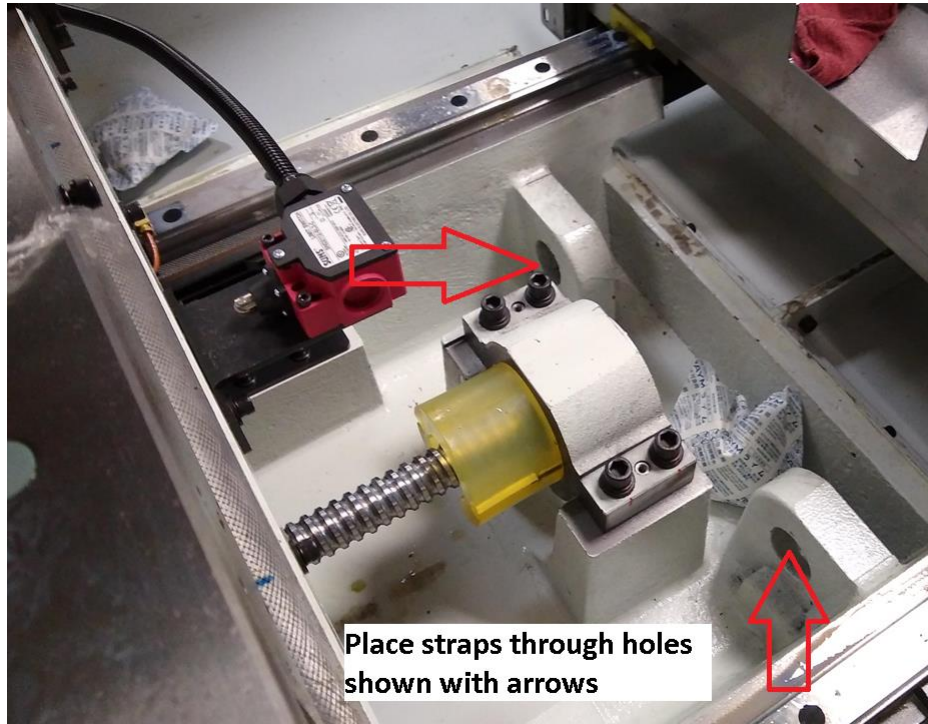

Figure 7 – Lifting Machine with Straps
- To move the machine while on the pallet, a 15000 lb. forklift with a 24" load center & 6' fork extensions is required. Depending on the load center or rating of the forklift, a larger forklift may be required. The center of gravity (CG) of the machine while on the pallet is ~56" from the edge of the pallet.
- The TMC may be lifted via a crane with 4 points shown in figure 7 and 8.